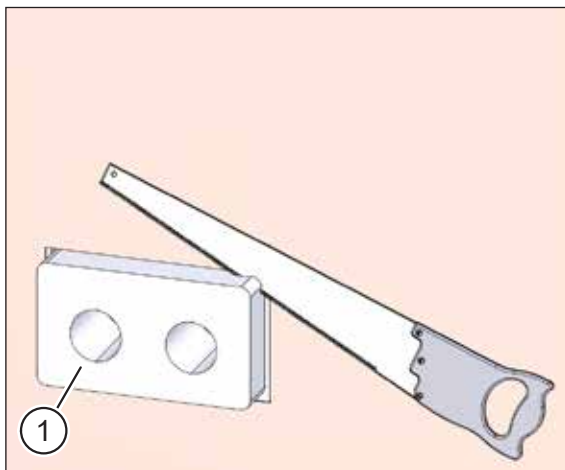
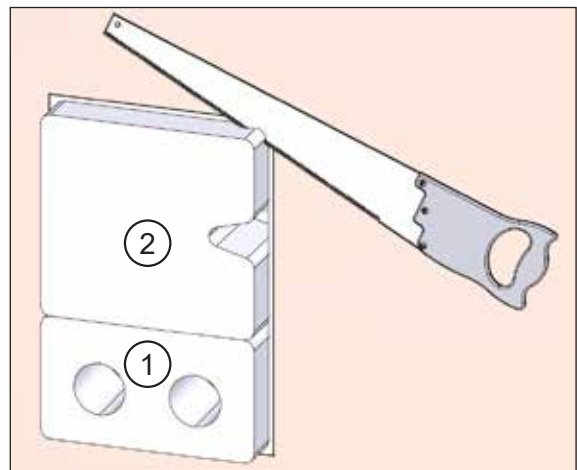

Fig. 35: Aligning the wall box **without** filler piece
Fig. 36: Aligning the wall box **with** filler piece
- ▶ Use a Styrofoam saw to cut off the excess wall box (item 1 in Fig. 35 and Fig. 36) and filler piece, if necessary (item 2 in Fig. 36), so that they are flush with the solid wall or any insulation.